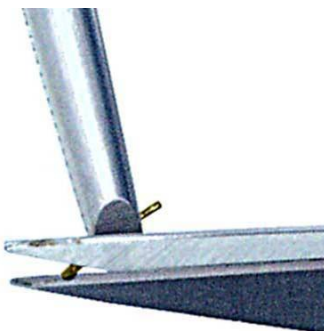

Fig. 11-6
1. Clamp the wire with the tweezers so that it projects beyond its edge for 2÷3 mm (Fig. 11-6).